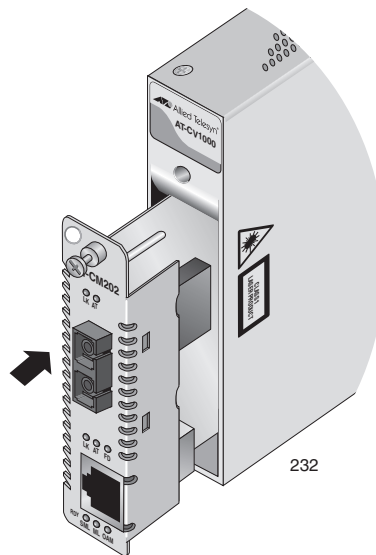

Figure 18. Inserting a Line Card
6. Slide the line card into the slot, as shown in Figure 18, until the slot cover is flush with the front of the chassis.